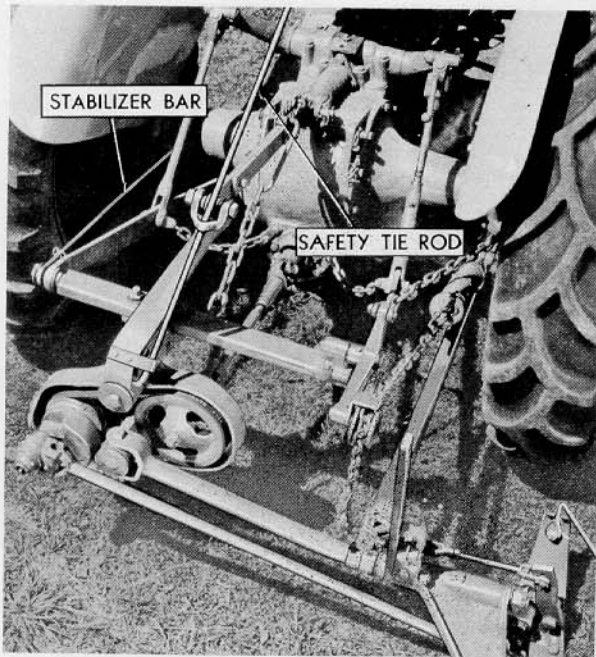

Figure 9
**Step 9:** Install stabilizer bar from left end of drawbar to tractor left stabilizer bracket, and secure with linch pin. (See Figure 9)
**Step 32:** Hook on transport safety tie rod (Figure 9) on upper end of belt housing support.